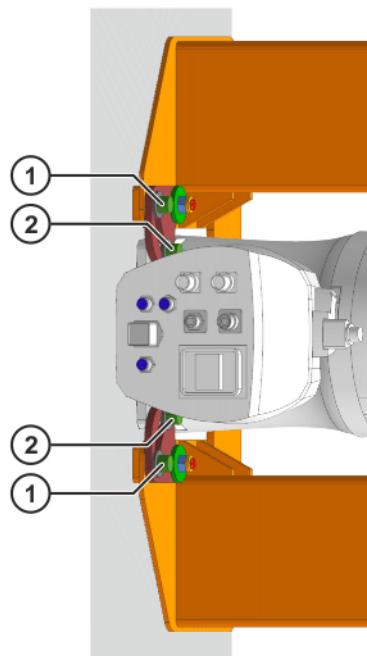

Fig. 8-6: Removing the top screws
14. Unscrew 2 M12x30 Allen screws (top Allen screws) and washers from the top of the base frame (**>>> Fig. 8-6**).